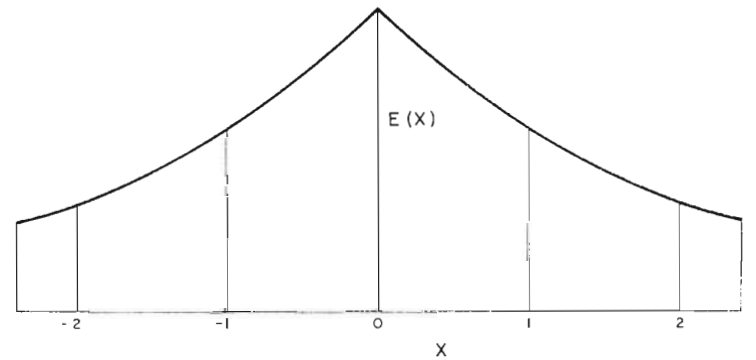

FIG. 4. An even function of field intensity distributed exponentially. ( $a = 0.5$ )
Figure 4 shows this field intensity distribution for a specific value of  $a$  equal to 0.5 and the field distribution extends to values of  $x$  greater than unity. At some value of  $x = x_1$  the field drops to zero and remains at zero for all values of  $x$  greater than  $x_1$ . Then equation (9) yields: